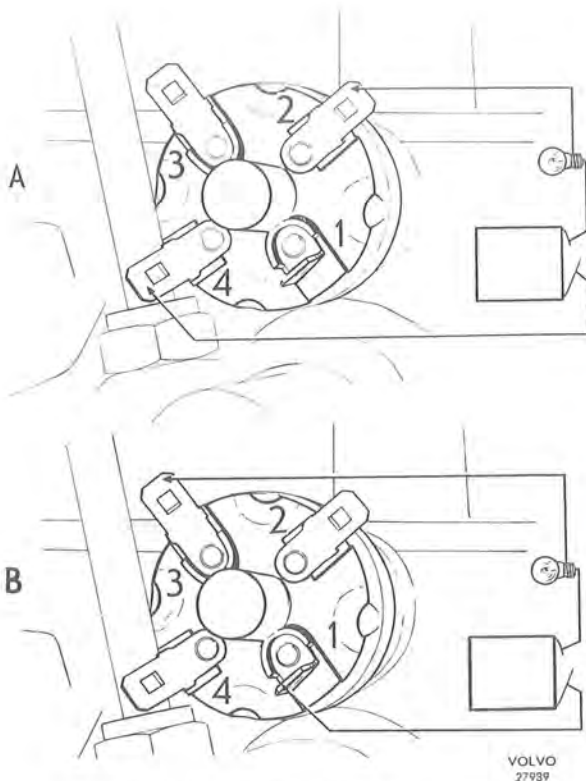

Fig. 4-72. Adjusting starter inhibitor
3. Connect a control lamp to the reversing light terminals as shown in Fig. 4-72 "A". Screw in the switch until the lamp goes out. Mark this position on the housing and switch with a pencil.
4. Connect the control lamp to both the other terminals, Fig. 4-72 "B". Screw in the switch until the lamp lights again and then mark the switch again. Then screw back the switch to halfway between